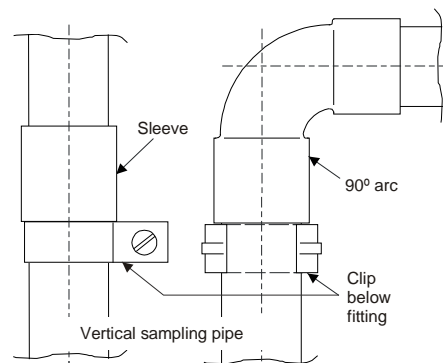

Fig. 23 Vertical sampling pipe
- For vertically arranged sampling pipe or parts thereof (e.g. in a riser or high-rack storage building) make certain that the tubes cannot slide down (fasten clips directly under fittings as shown in Fig. 23).